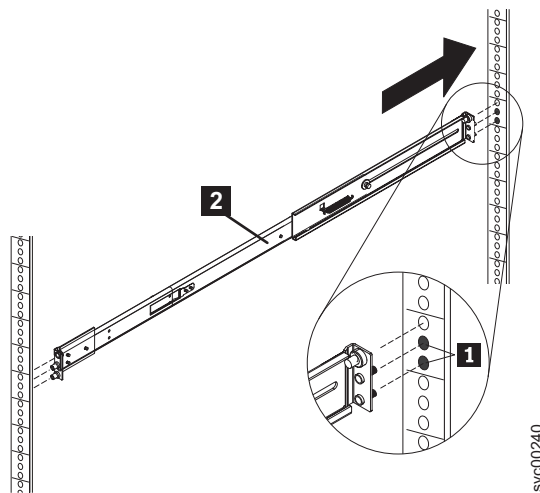

Figure 38. Inserting the right slide rail into the rear rack mounting flange
3. Insert the right slide rail **2** into the rear rack mounting flange, as shown in Figure 38, with the rail pins **1** protruding through the flange.